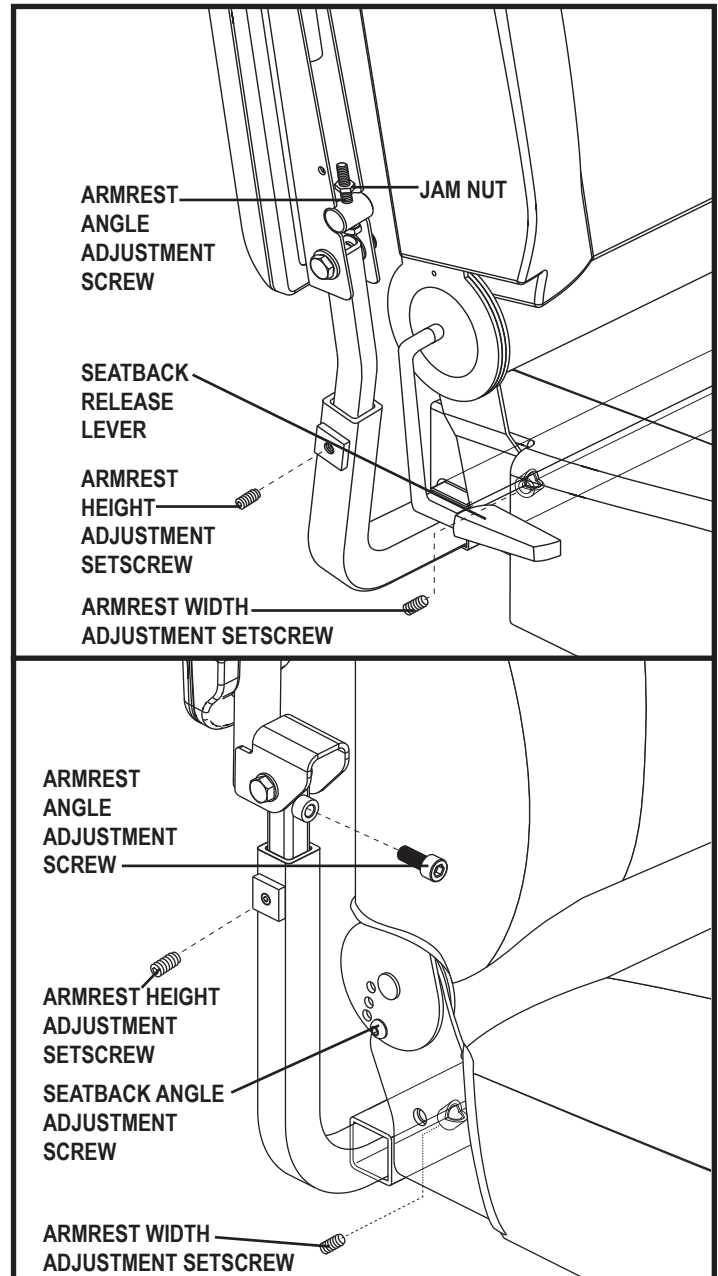

Figure 10. Armrest and Seatback Adjustments
If your power chair is equipped with a manual recline seatback, you can adjust the seatback angle using either hardware or the seatback release lever. **See figure 10.**
1. Locate the armrest width adjustment setscrew on each side of the armrest receiver bracket. **See figure 10.**
1. Loosen the setscrew on the armrest. **See figure 10.**